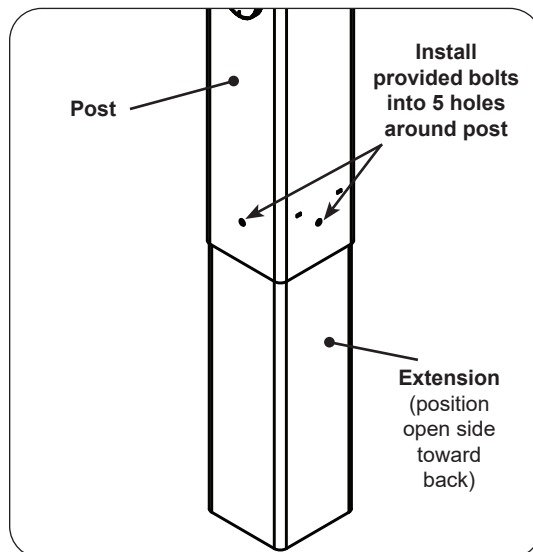

Fig. 29-1 Install extension to post
1. Attach the extension to the bottom of the grill post so that the open portion is toward the back of the grill and the five holes in the extension line up with the five (5) weld-nuts in the post (see Fig. 29-1).